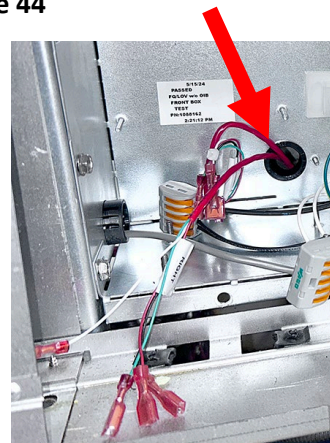

Figure 48
- 51. Insert the two wire harnesses from the VIB harness into the lower left rear opening in the control box as shown (see Figure 48).